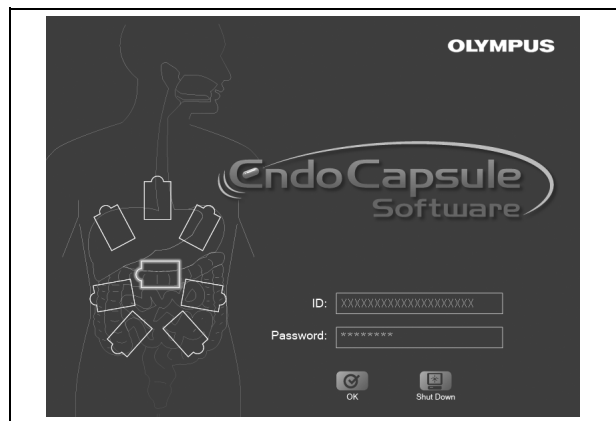

Figure 4.1
1. Turn ON the monitor and the workstation. The system starts automatically, and the login screen is displayed (see Figure 4.1).